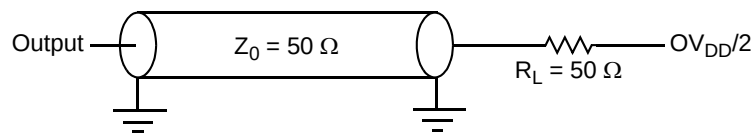

Figure 29. AC Test Load for the JTAG Interface
1. All outputs are measured from the midpoint voltage of the falling/rising edge of  $t_{TCLK}$  to the midpoint of the signal in question. The output timings are measured at the pins. All output timings assume a purely resistive 50- $\Omega$  load (see Figure 29). Time-of-flight delays must be added for trace lengths, vias, and connectors in the system.
2. The symbols used for timing specifications follow the pattern of  $t_{(first\ two\ letters\ of\ functional\ block)(signal)(state)(reference)(state)}$  for inputs and  $t_{(first\ two\ letters\ of\ functional\ block)(reference)(state)(signal)(state)}$  for outputs. For example,  $t_{JTDVVKH}$  symbolizes JTAG device timing (JT) with respect to the time data input signals (D) reaching the valid state (V) relative to the  $t_{JTG}$  clock reference (K) going to the high (H) state or setup time. Also,  $t_{JTDXKH}$  symbolizes JTAG timing (JT) with respect to the time data input signals (D) went invalid (X) relative to the  $t_{JTG}$  clock reference (K) going to the high (H) state. Note that, in general, the clock reference symbol representation is based on three letters representing the clock of a particular functional. For rise and fall times, the latter convention is used with the appropriate letter: R (rise) or F (fall).
Figure 29 provides the AC test load for TDO and the boundary-scan outputs.